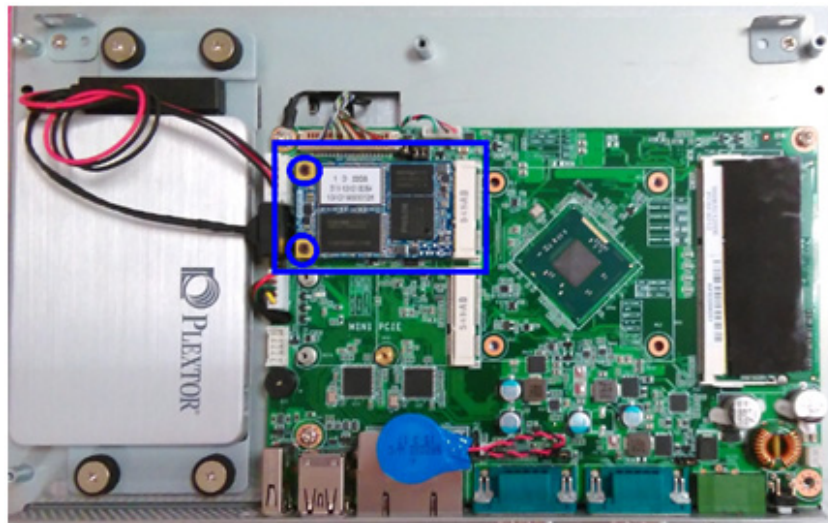

Figure 2.13 Install mSATA module
1. Insert the Mini PCIe full size card into socket, and secure the card with the two retention screw in accessory box. And replace the original bracket with holed antenna bracket in accessory box. (See Figure 2.13)